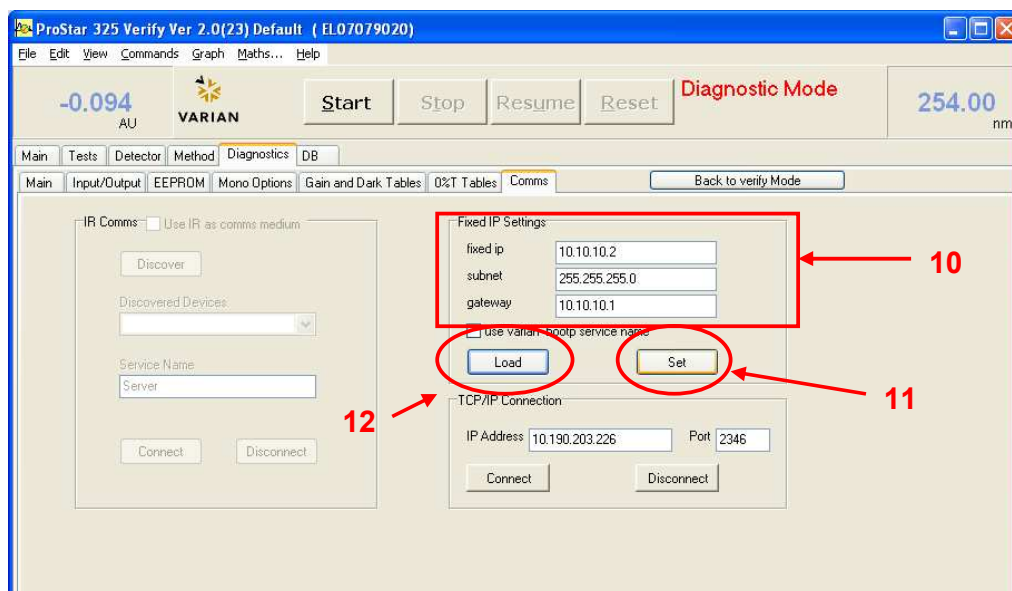

Figure 10: Inserting the IP Settings
16. Under the Fixed IP settings (10), type in the following settings (Figure 10);